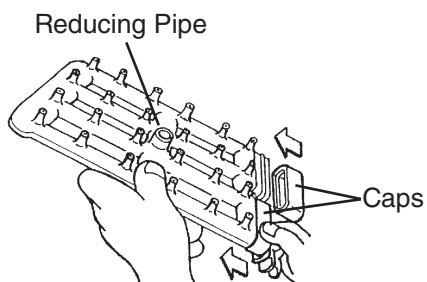

Fig. 43
- 11) Refit the 2 caps in their correct positions. Make sure the reducing pipe is in place in the center. See Fig. 43.